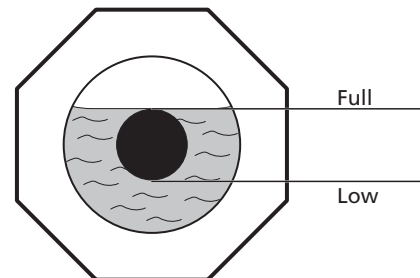
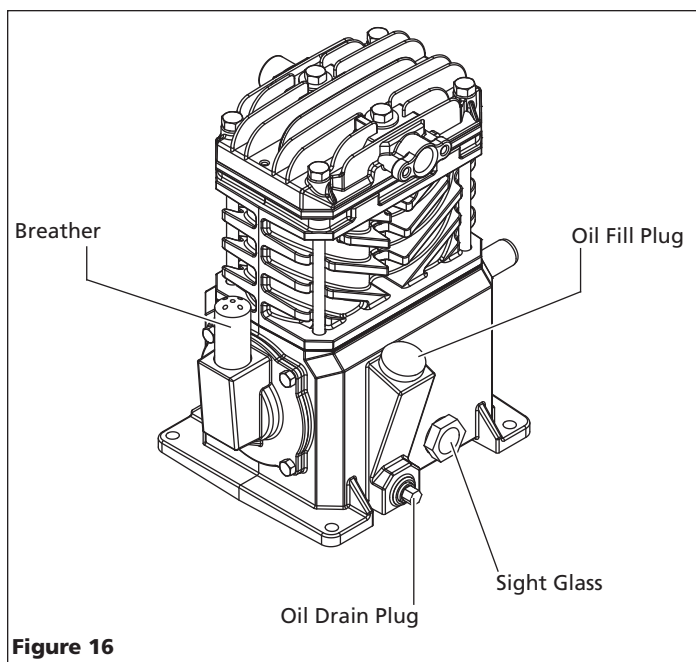

Figure 15
Figure 16
Check oil level (see Figure 15) - some models are shipped with oil in the pump. Reference the Oil Information chart in this manual or the specification label on compressor pump for the proper oil capacity and oil type. Add oil if needed. Place oil fill plug back on pump.
This pump has an oil sight glass as shown in Figure 16. Oil level can be monitored and maintained as shown in Figure 15.
- c. Remove oil drain plug (location shown in Figure 16). Allow oil to collect in pan.
- d. Replace drain plug. Fill pump to full level (See Figure 15) using compressor oil listed on Oil Information chart.